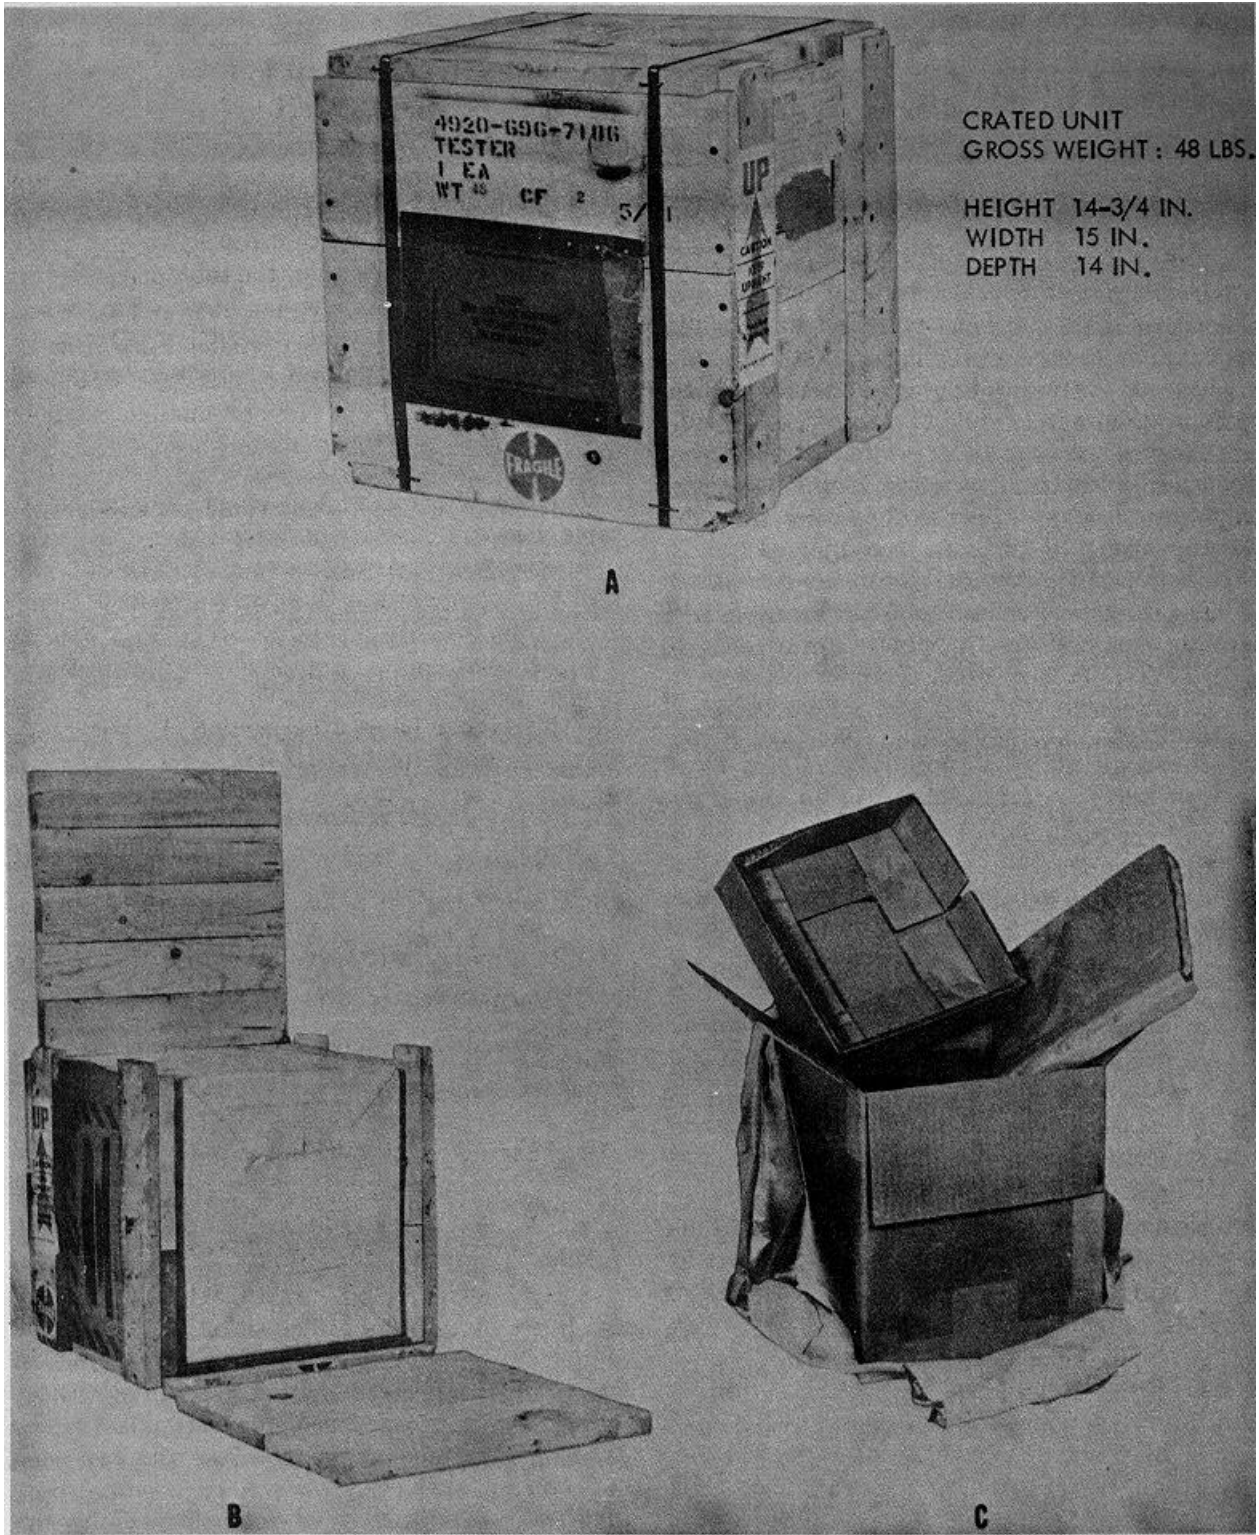

Figure 5. Unpackaging sequence.
a. Unloading. Since the table assembly, including accessories, is light in weight and easily handled, few special unloading instructions are required. However, since the table assembly is precision mounted, it should be shipped, unloaded, and stored in its normal upright position and handled with care. The upright position is indicated by an arrow and the word "UP" on the outside of the crate (fig. 5).
b. Uncrating. See figure 5 for the unpacking sequence. Exercise care in unpacking the table assembly using the following procedure:
- (1) Visually inspect the crate for evidence of damage. If the crate is received in a damaged condition, DD Form 6 should be filled out by authorized personnel.
- (2) Cut the steel bands securing the crate and pull nails out from top of crate. Remove top.
- (3) Pull nails from one side of crate and remove side.
- (4) Remove packed unit from crate and open water vapor-proof barrier bag.
- (5) Open cardboard carton and remove padding, and wrapped adapter from top of carton.
- (6) Remove table assembly from carton.
- (7) Conserve shipping crate, carton, and packaging materials for future use in storage and shipping.